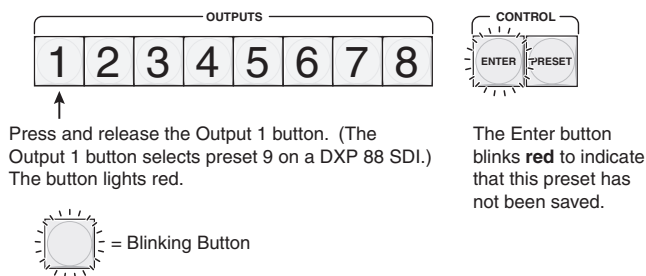

Figure 3-19 — Selecting the preset
2. Press and release the output 1 button (figure 3-19).